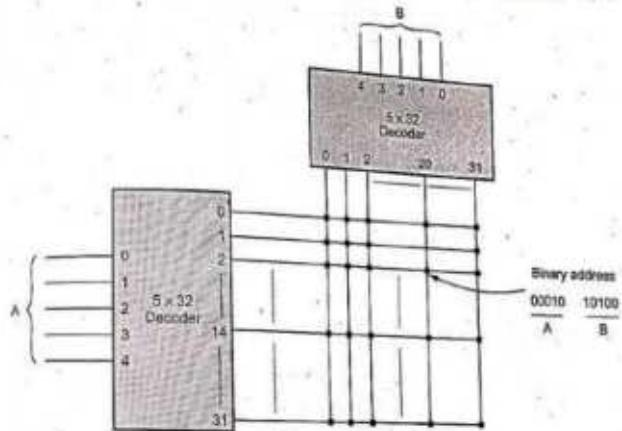

Fig. 7.7.2 Two dimensional decoding scheme
- A decoder with  $k$  inputs and  $2k$  outputs requires  $2k$  AND gates with  $k$  inputs per gate. We can reduce the total number of gates and the number of inputs per gate by employing two decoders in a two-dimensional selection scheme. The Fig. 7.7.2 shows the two dimensional decoding scheme. Here, two  $k/2$  input decoders are used instead of one  $k$ -input decoder. One decoder performs the row selection and the other the column selection in a two dimensional matrix configuration.
- The two-dimensional selection pattern shown in Fig. 7.7.2 has  $k = 10$ , i.e. 10 decoder inputs. These decoder inputs are divided by 2 to get individual decoder inputs, i.e. 5 input for each decoder. Therefore, here instead of using a single  $10 \times 1024$  decoder, we use two  $5 \times 32$  decoders. With a single decoder we would need 1024 AND gates with 10 inputs in each. In the two - decoder case, we need 64 AND gates with five inputs in each. The five most significant bits of the address go to input A and the five least significant bits go to input B. Each word within goes to one A and one B line. Thus, the memory array is selected by the coincidence of one A and one B line. Thus, each word in memory is selected by the coincidence between 1 of 32 rows and 1 of 32 columns for a total of 1024 words.